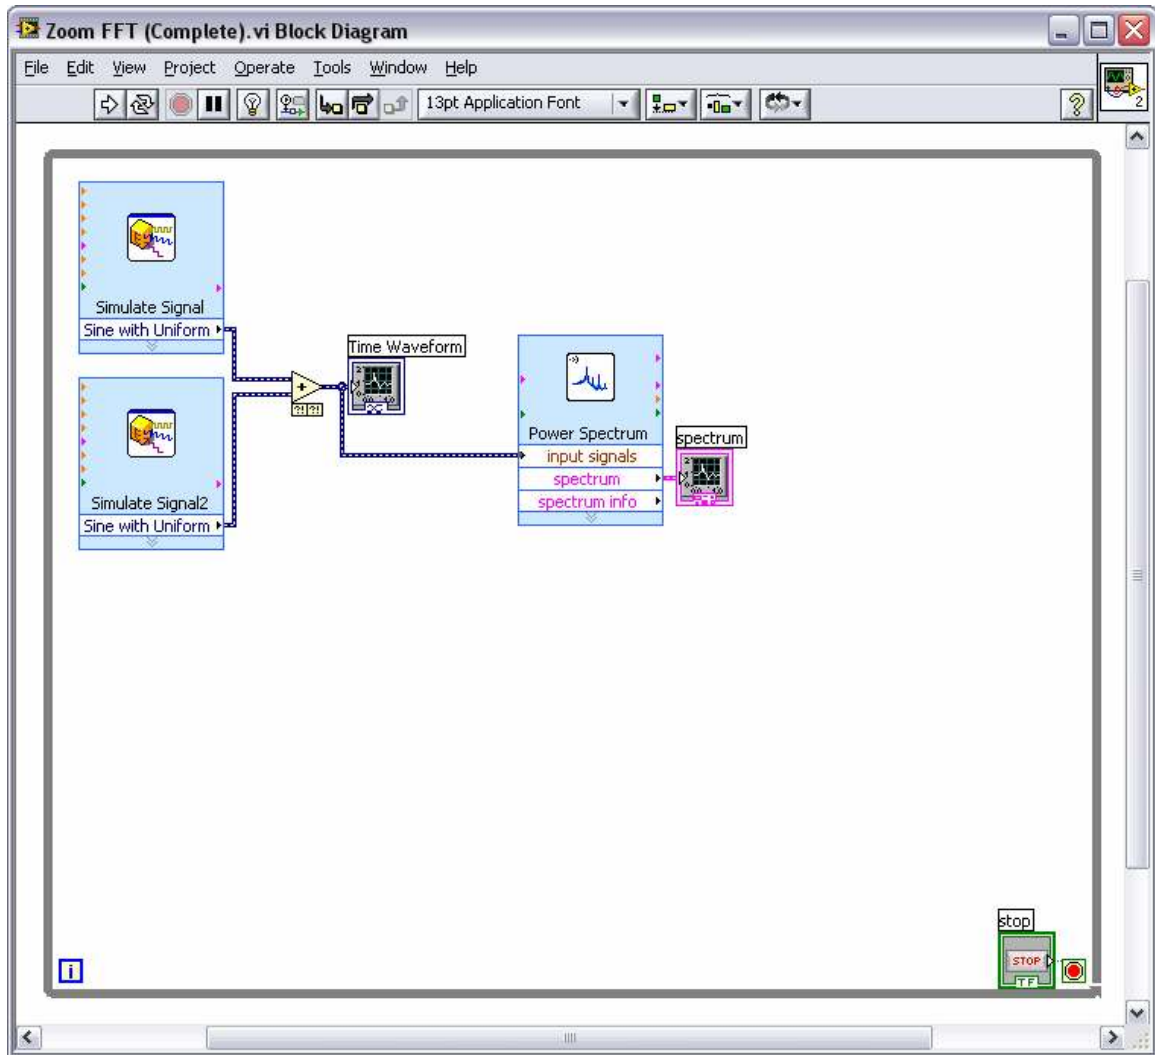

Figure 3-7. Block diagram of Zoom FFT VI
7. Right-click on the **spectrum** output of the Power Spectrum Express VI and select Create >> Indicator. Connect the spectrum graph indicator and Power Spectrum Express VI like figure 3-7.